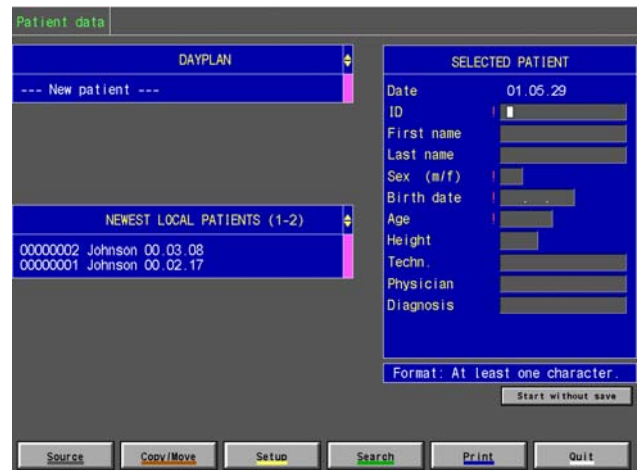

Figure 66 The Patient Data Window
- Enter the patient data in the Selected Patient box. All the boxes marked with an "!" have to be filled in at a minimum, otherwise the program cannot proceed, see Figure 66 above.